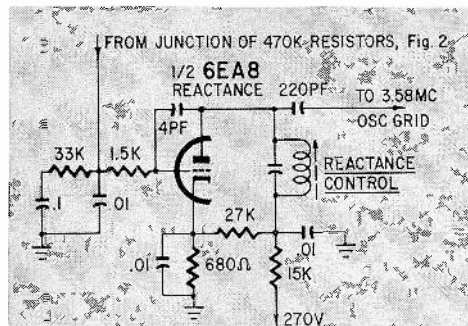

Fig. 3—Reactance tube thinks it's a coil or capacitor! Controls 3.58-mc oscillator. Some TV's used this to control horizontal oscillator.
**3. Reactance tube** (Fig. 3), which certainly should be familiar to all the old-timers. The same circuit is used in lots of older TV sets, to control the horizontal oscillator! Afc, in other words.